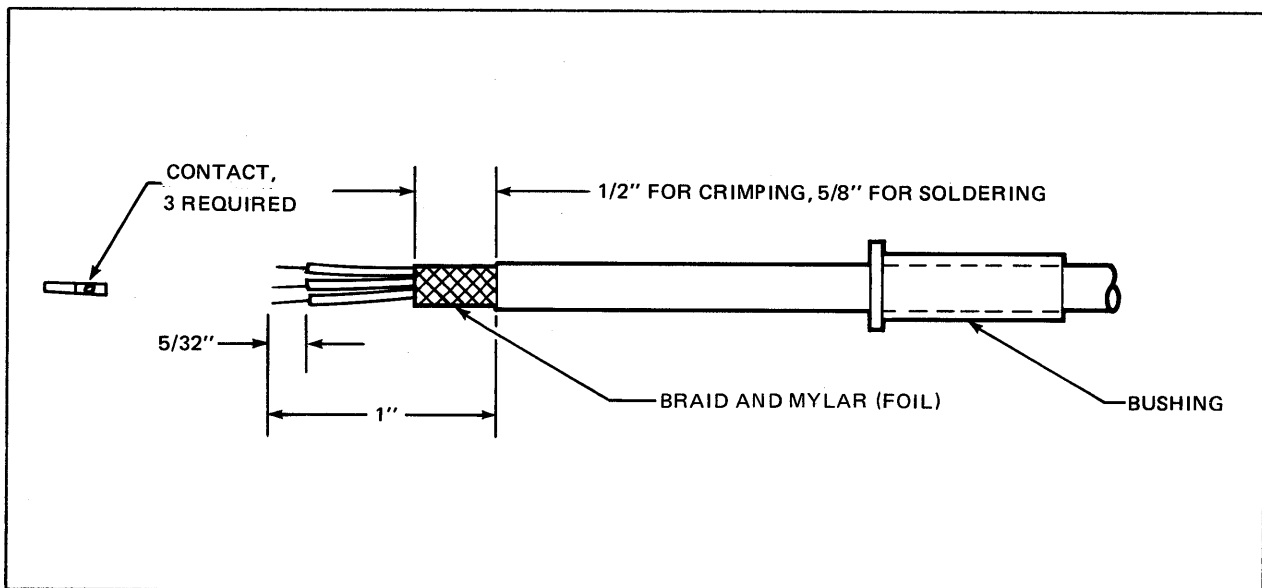

Figure D-6. Cable preparation for 3-pin ATP connector
1. Prepare the cable as shown in Figure D-6.